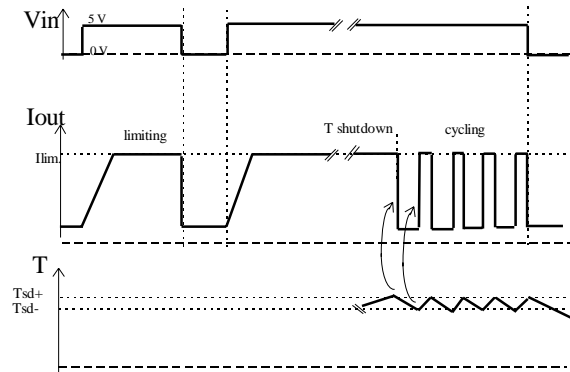

Figure 2 - Protection timing diagram
| T _{sd+} | Over-temp. positive going threshold | — | 165 | — | °C | See fig. 2 |
| T _{sd-} | Over-temp. negative going threshold | — | 158 | — | °C | See fig. 2 |
| V _{sc} | Short-circuit detection voltage (3) | 2 | 3 | 4 | V | See fig. 2 |